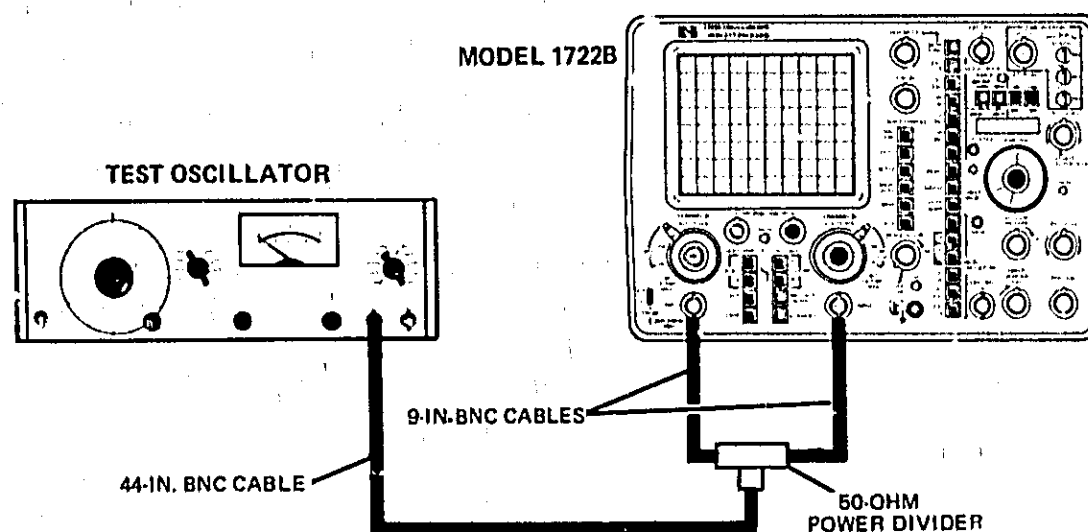

Figure 5-7. CMRR Test Setup
a. Connect equipment as shown in figure 5-7.